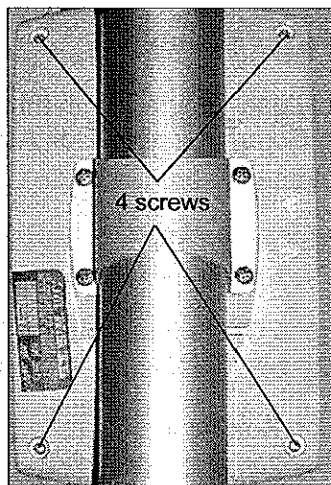

Figure 5-23a: Rear Enclosure
2. While holding onto the EDA module's Front Enclosure, remove the four corner Phillips screws from its Rear Enclosure. Remove the Front Enclosure (see Figure 5-23a).
4. Replace the Front Enclosure and secure with four corner Phillips screws at the Rear Enclosure (see Figure 5-23a).